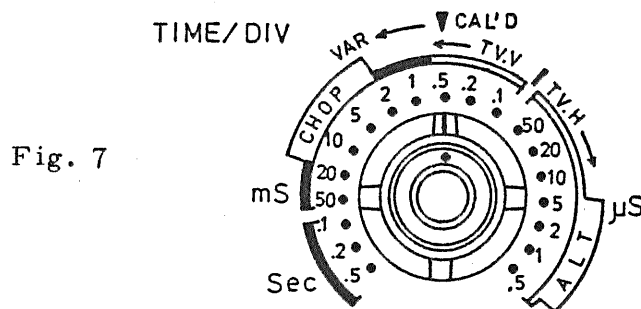

Fig. 7
The Model 5514S has no individual push button for CHOP and ALT modes but has the DUAL button (11) only. In fact, sweep mode selection is linked with the TIME/DIV switch. The sweep circuit operates in the CHOP mode for 1ms or less 1ms/DIV and in the ALT mode for 0.5ms/DIV or more as shown in Fig. 7.